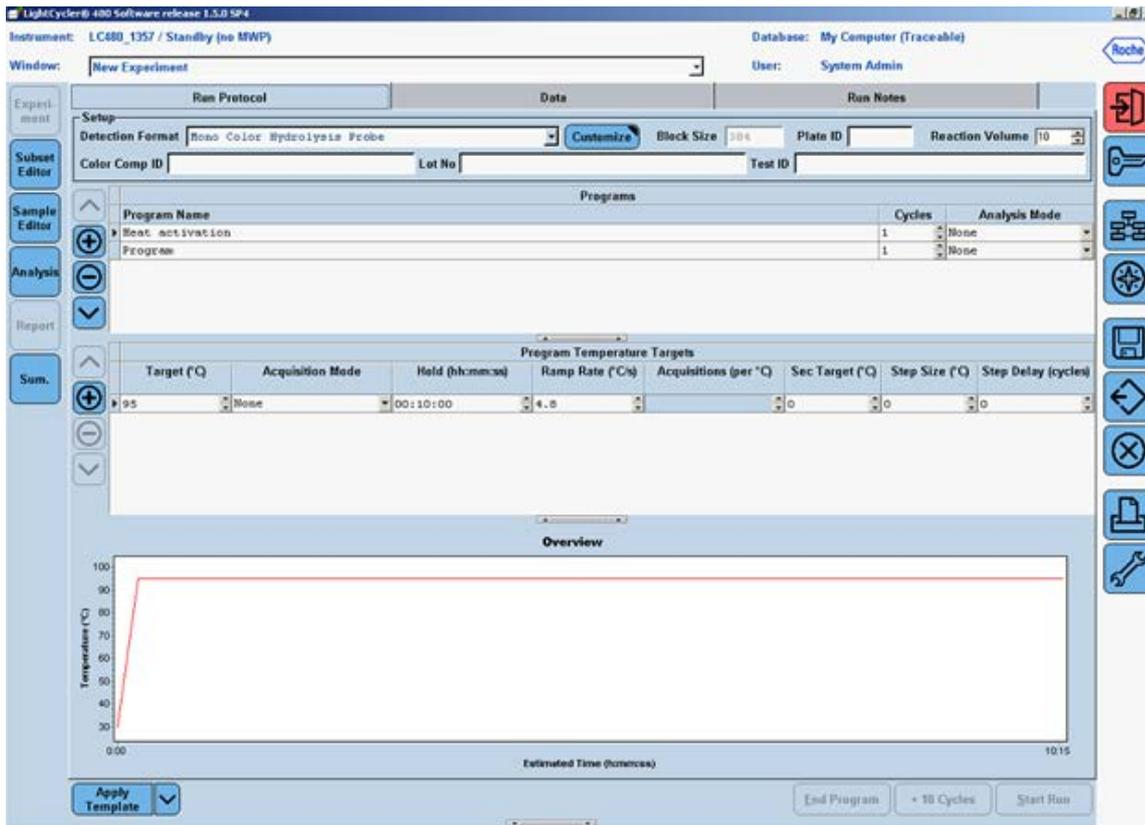

Figure 4. Setup of the second program — “PCR Cycling.”
- Click to change the “Program Name” of the 2nd program to “PCR Cycling”. Change the number of “Cycles” to “45”[†] and change the “Analysis Mode” to “Quantification”. In the “Temperature Targets” section, click the  button twice to add two more temperature target lines. Enter the values for the following parameters (Figure 4):